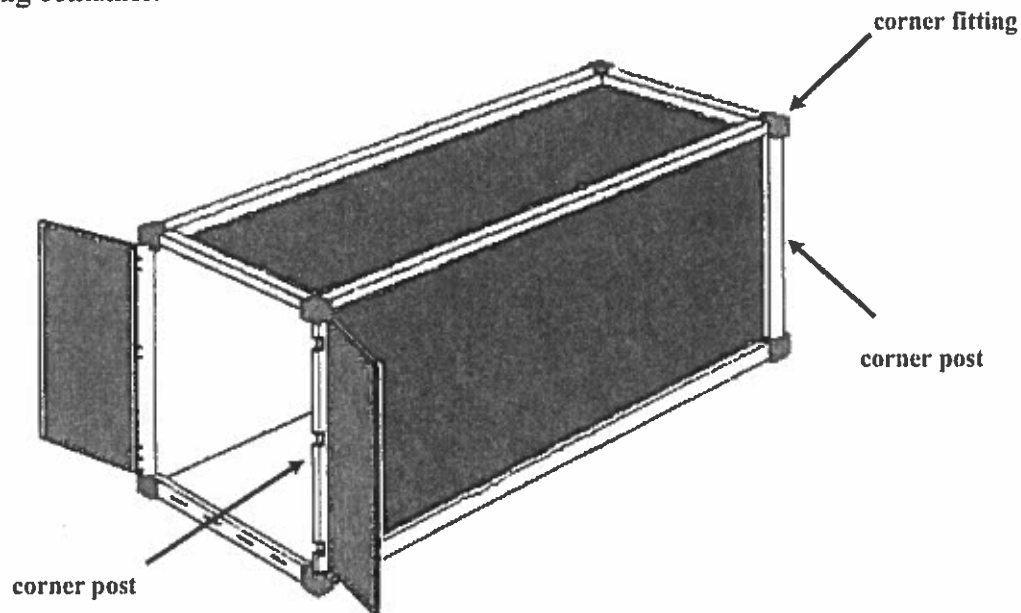

Figure 1. ISO Series 1 Shipping Container
Fig. 1 shows a typical International Standards Organization (ISO) Series 1 shipping container.
The corner fittings shown in Figure 1 are an integral part of the load-bearing column in the container. ISO 1161-1984(E)(4) states "Corner fittings for Series 1 freight containers shall be capable of withstanding the loads calculated in accordance with the requirements of ISO 1496/1 for Series 1 containers." This means that the bottom corner fitting of the bottom container in a stack must withstand the weight of the containers stacked above it, plus the weight of the bottom container itself. The maximum load which a single corner fitting must take is then